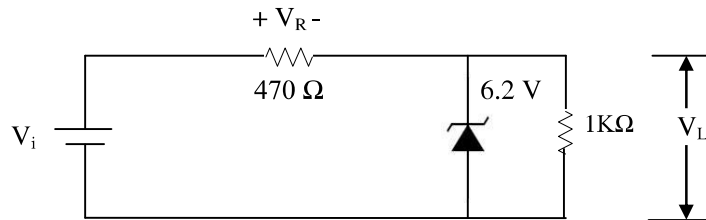

Fig. 5: Circuit with variable supply voltage.
5. Calculate  $V_{i min}$ , and  $V_{i max}$  for  $I_{Zmax} = 7.2\text{mA}$  of Fig. 5.